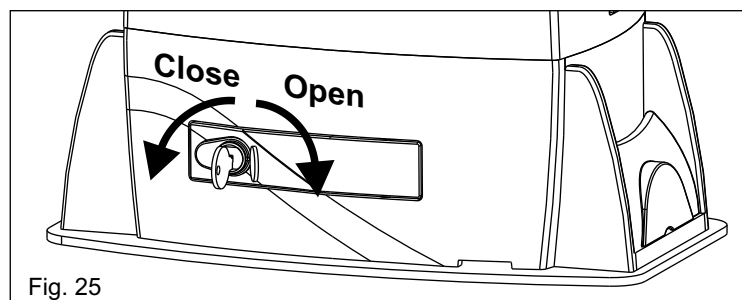

Fig. 25
- Open the lock cover, insert the key and rotate it 90° clockwise (Fig. 25).